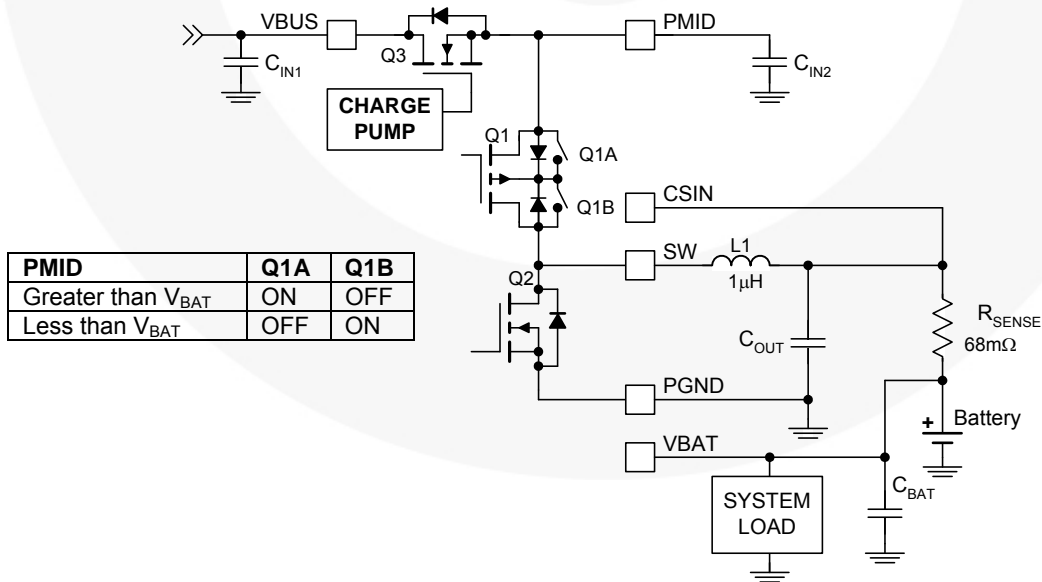

Figure 3. Power Stage
3. A 6.3V rating is sufficient for C_{MID} since PMID is protected from over-voltage surges on VBUS by Q3 (Figure 3).